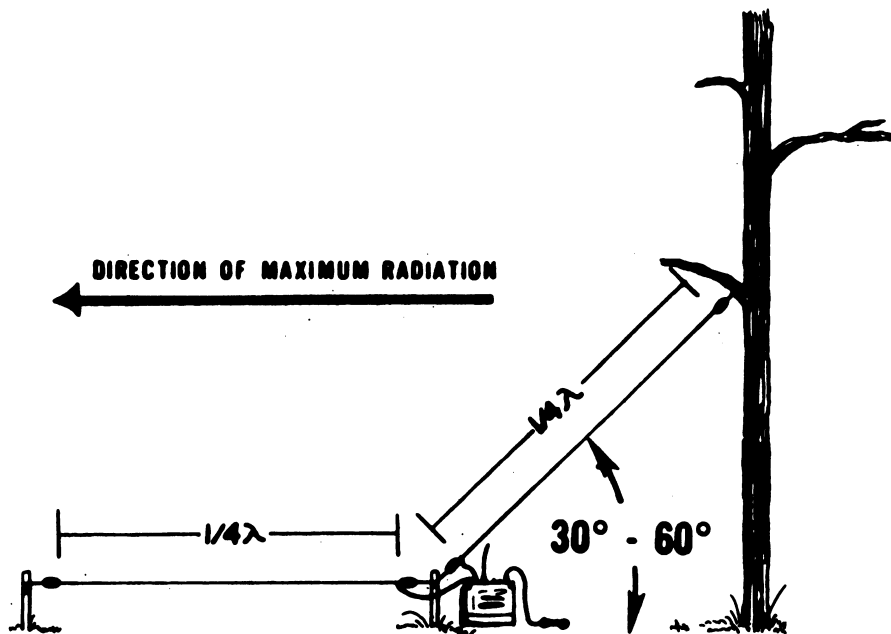

Figure 4. Slant-wire antenna.
4. Slant-Wire Antenna. This antenna is an efficient radiating system using a single antenna support (fig. 4).